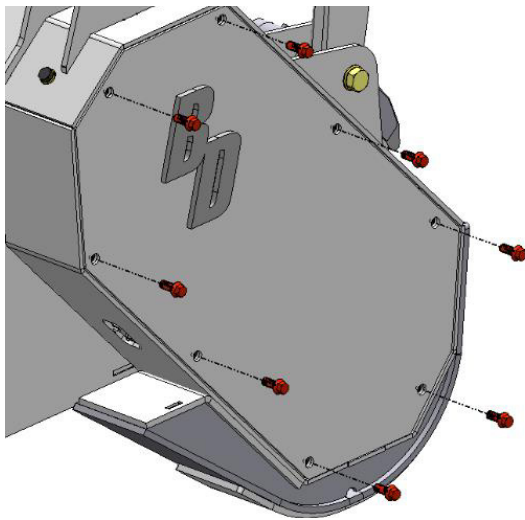

Figure 13
1. To open the drive belt access panel, remove the eight (8) bolts. See Figure 13.